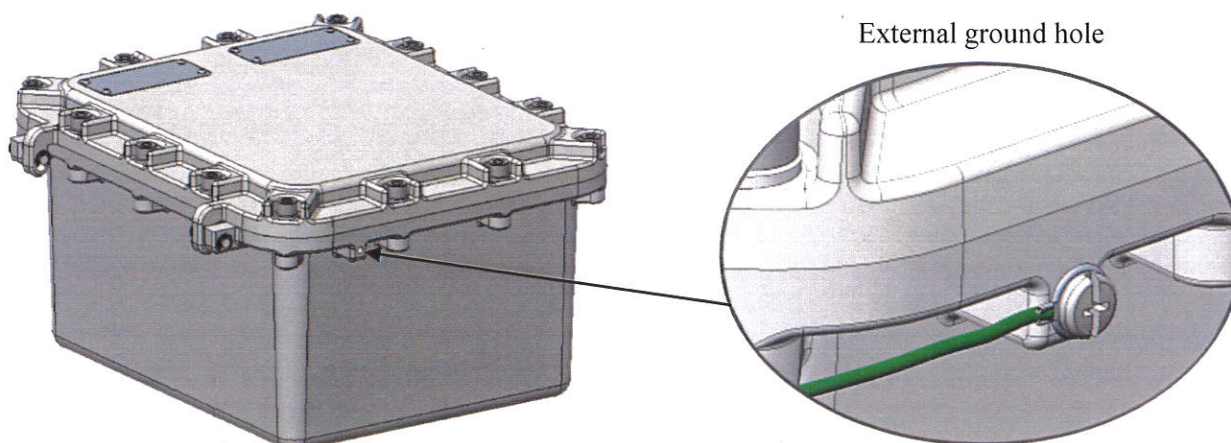

Figure 3
- ☞ External ground hole size: M5,torque: 14.5 kgf-cm. (Figure 3)